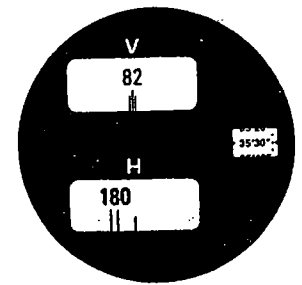

Fig. 30
- 1) Sight the target in face left position and obtain the zenith angle FL. Example: $FL = 82^\circ 35'30''$, Fig. 30